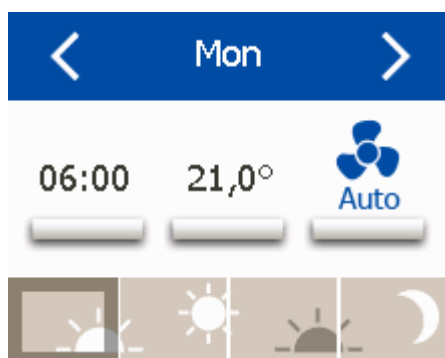

Fig. 86: Individual settings for each day
1. ▶ Use the screen in Fig. 86 to select a day of the week using the ◀ and ▶ buttons.
5. ▶ On the screen in Fig. 86 click on the button for the room temperature.
7. ▶ On the screen in Fig. 86 click on the button for the supply air flow rate.
9. ▶ On the screen in Fig. 86 select the next day of the week and repeat steps 2 to 8.